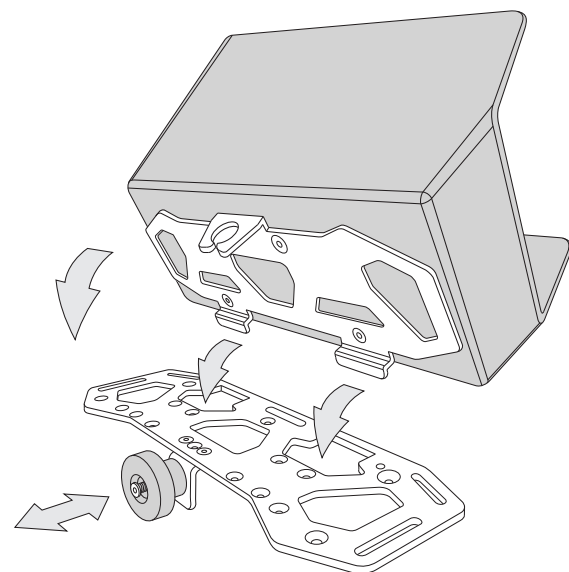

Figure 14. Secure Open-Top Bin to Cargo Rack
4. Secure the Open-Top Storage Bin to the Cargo Rack using the Quick Release Mount as shown in **Figure 14**.